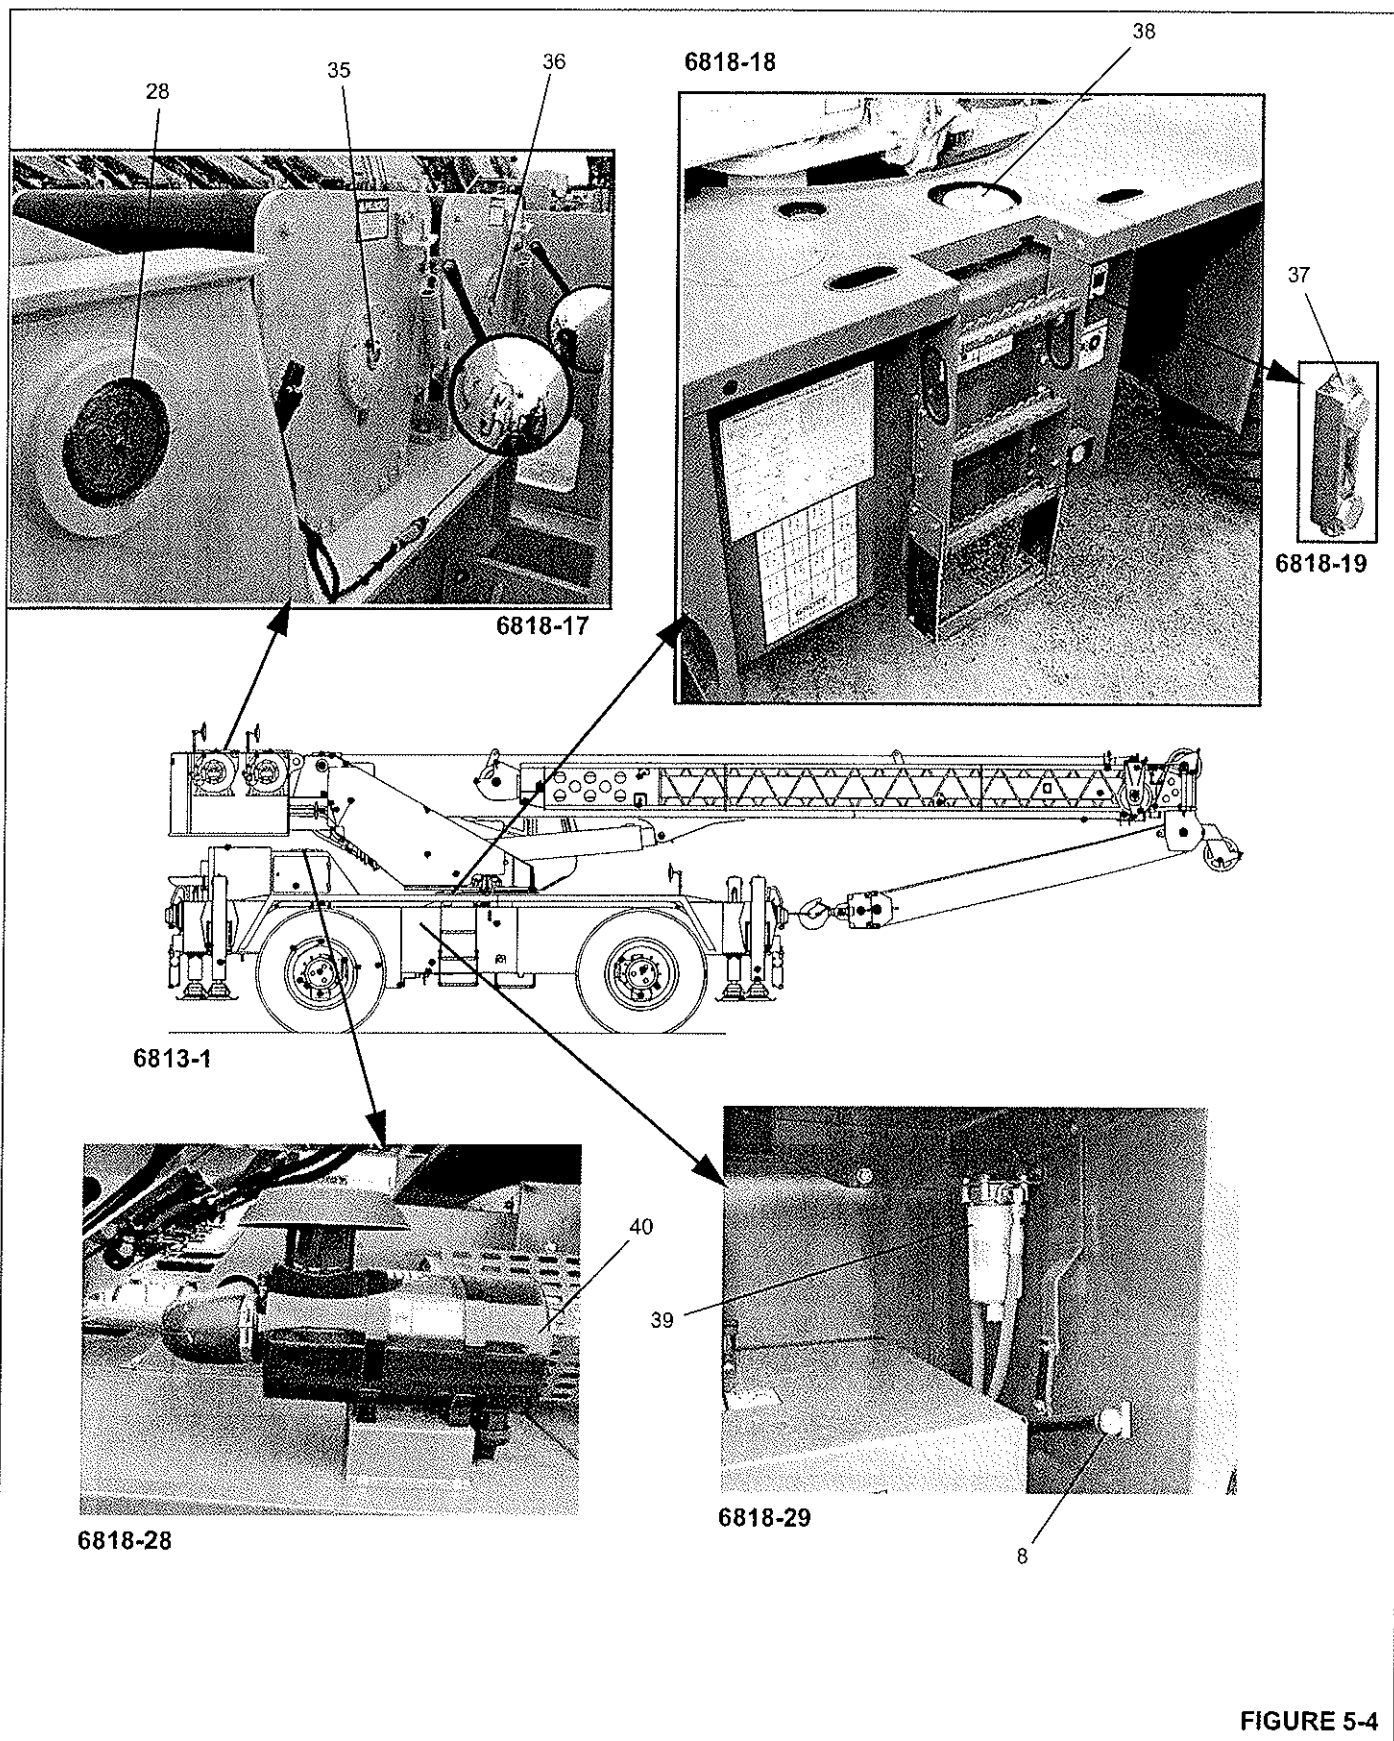

FIGURE 5-4
8. Transmission, Torque Converter and Filter (8). (Figure 5-1) and (Figure 5-4)